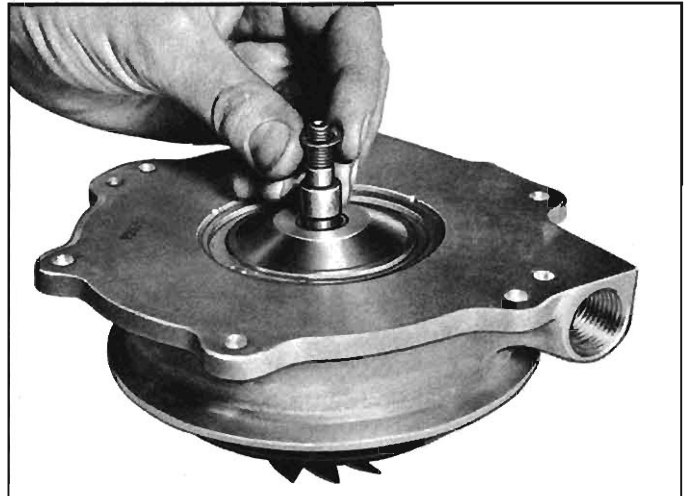

Fig. 9-55—Shaft Sleeve and Shim Installation
14. Install the shaft sleeve (fig. 9-55), impeller shim (determined in Step 8f) and start the impeller on the turbine shaft.